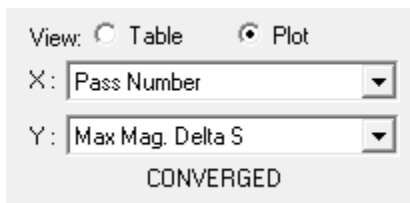

Figure 5. X, Y axes settings
- 2 Set the fields as shown in Figure 5 .